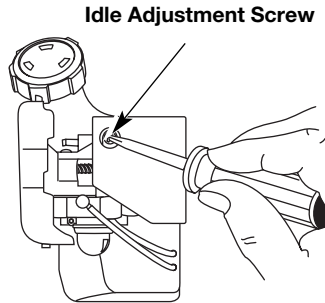

Fig. 34
The idle speed of the engine is adjustable. An idle adjustment screw is reached through a hole in the top of the engine cover (Fig. 34).
2. Release the throttle trigger and let the engine idle. If the engine stops, insert a small phillips or flat blade screwdriver into the hole in the air filter/muffler cover (Fig. 34). Turn the idle speed screw in, **clockwise**, 1/8 of a turn at a time (as needed) until the engine idles smoothly.